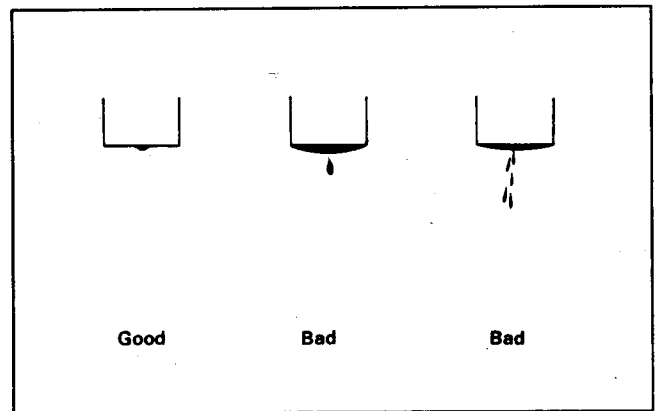

Figure 31
6. While pressure is being applied, watch for an accumulation of fuel at the tip of the nozzle (Fig. 31). A small amount of fuel may be present due to a previous chattering test - this would be normal. If the fuel accumulates and drips down during the test (about ten seconds) the nozzle assembly is defective and must be replaced.